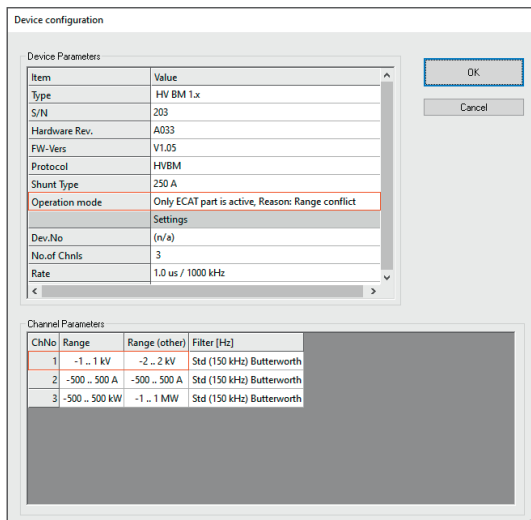

Fig. 6-35: Dialog **Device configuration**, differing measurement ranges for CAN and ECAT
This is indicated on the module by measurement channel LED indicators **permanently lit in red**. This error is displayed in the **Operation mode** row of the **Device configuration** dialog (see Fig. 6-35).
- ⇒ The dialog **Device configuration** opens (Fig. 6-35).